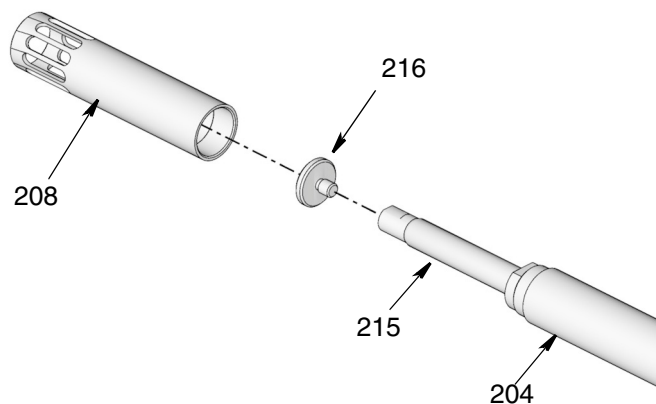

FIG. 42
17. Thread shovel piston (216) to the end of priming rod (215). Use a socket wrench on piston (216) and wrench on the flats of priming rod (215) to securely tighten shovel piston (FIG. 42). Torque to 145 to 155 in. lbs (16.38-17.5 N.m).
18. Thread shovel cylinder (208) to pump cylinder (204) (FIG. 42). Use a wrench to tighten securely.